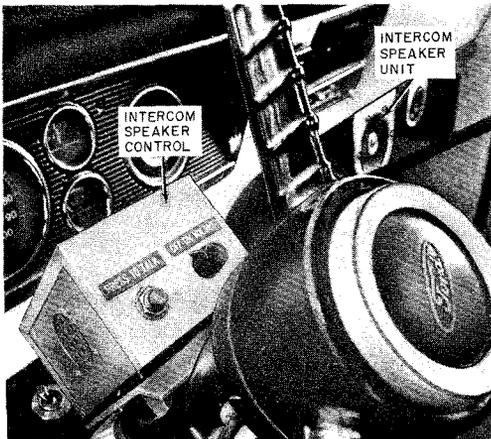

Fig. 5—Intercom—Speaker Unit and Controls in Truck Cab
2.05 Intercom speaker units are mounted in the platform and in the truck cab (Fig. 5). The unit in the cab is equipped with an ON-OFF VOLUME control and a PRESS-TO-TALK switch. The unit in the platform is designed for hands-free operation.